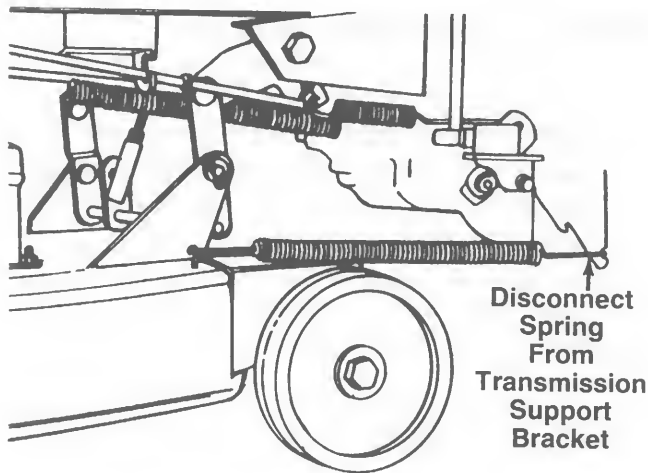

FIGURE 26.—Model 784G
3. Disconnect the spring from the transmission support bracket. See figure 26.